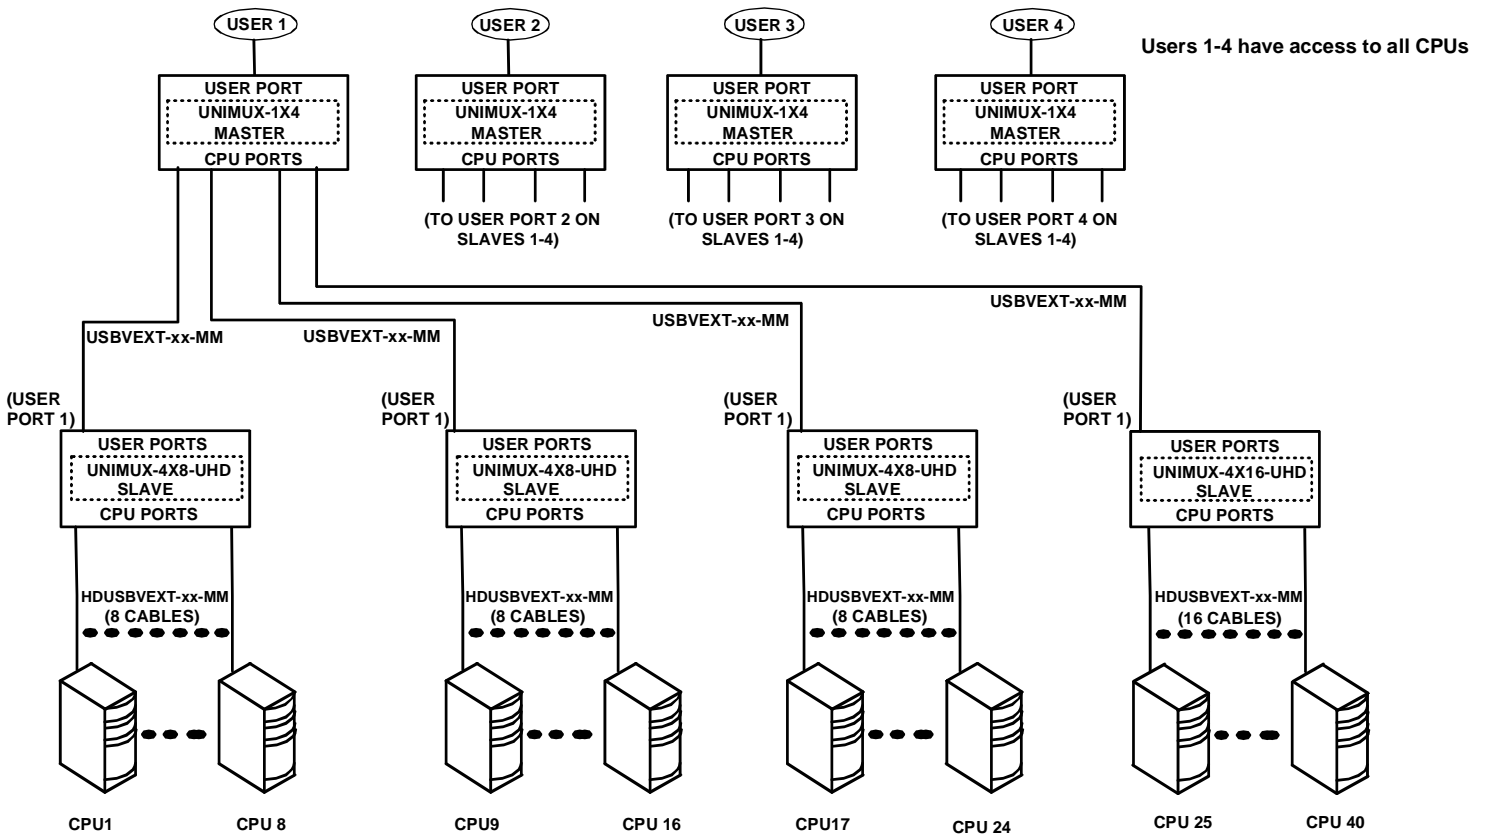

Figure 46- Cascaded configuration with single-user masters
**Exception: If the master is a single user UNIMUX switch, slaves connected downstream can be any size multi-user UNIMUX switch (see Figure 46).**